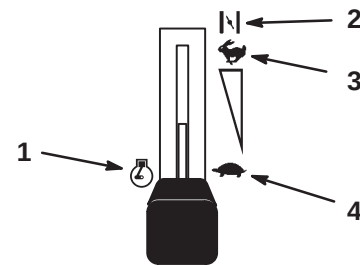

Figure 7
6. After the engine starts, move the throttle lever to Fast (Fig. 7). If the engine stalls or hesitates, move the throttle lever back to Choke for a few seconds. Then move the throttle lever to the desired setting. Repeat this as required.
1. Move the throttle lever between Slow and Fast (Fig. 7).